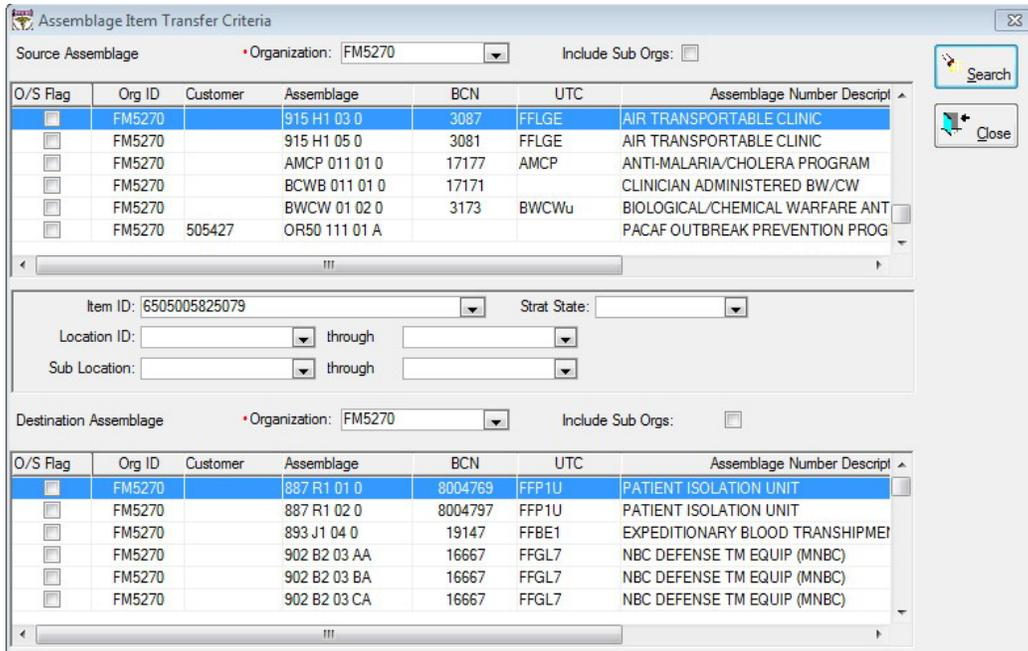

Figure 6. Assemblage Item Transfer Criteria Window
(1) Transfers can be processed within the same organization or between two different ones. Additionally, individual item transfers can be accomplished between two customer-owned assemblages, but only when the same customer owns the assemblages.
(2) Select “Assemblage Item Transfer” from the Navigate dropdown menu to access this function. In the Assemblage Item Transfer Criteria window (Figure 6), use the available search criteria to locate the desired record(s). The criteria window is separated into two parts: “Source Assemblage” and “Destination Assemblage”.